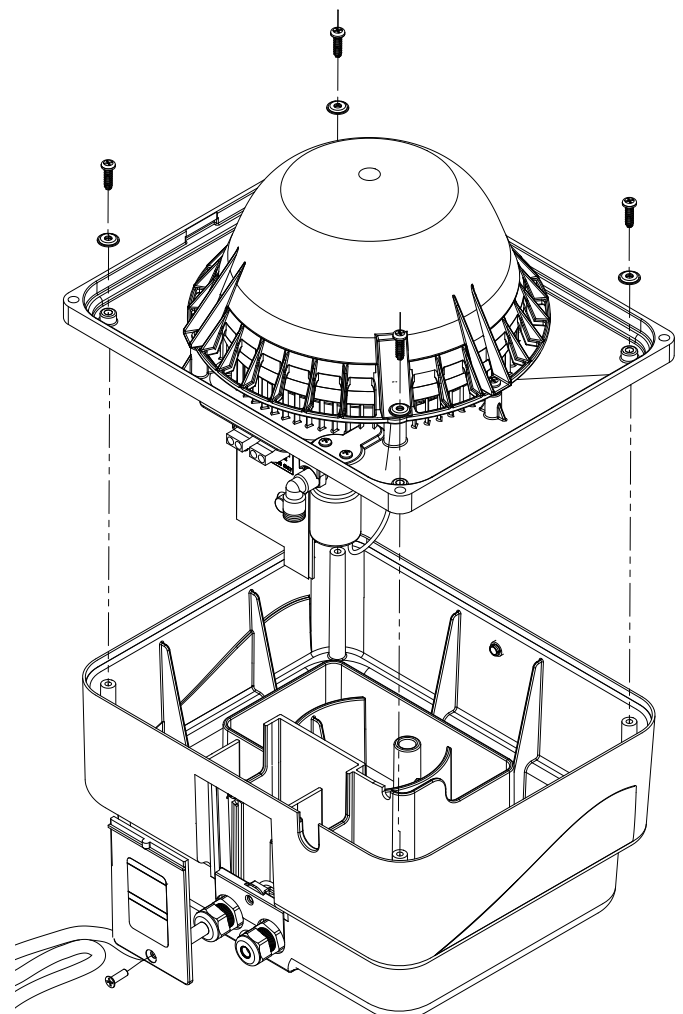

Figure 10
9. With the dome removed from the unit, remove the four screws that secure the motor base to the reservoir base. (See Figure 10)